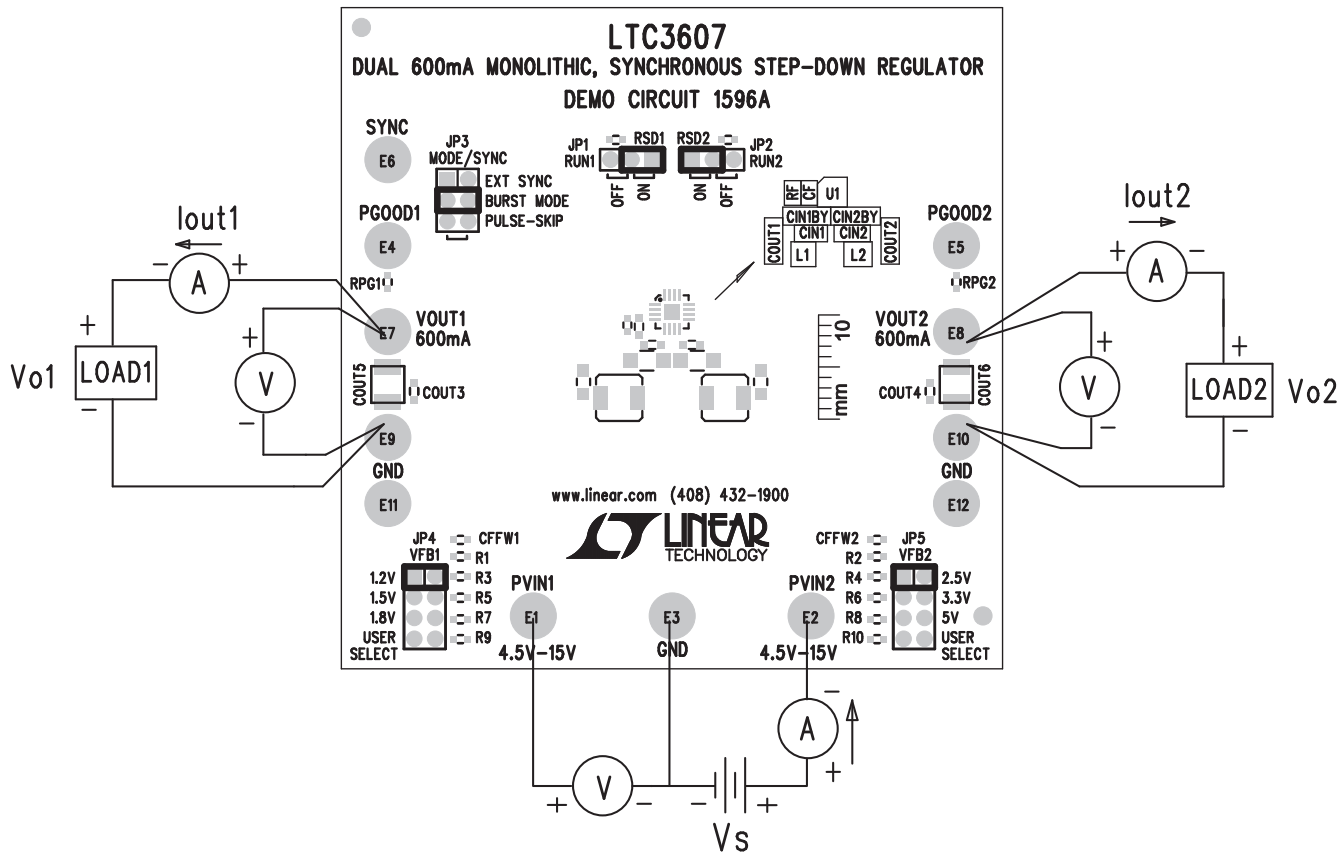

Figure 1. Proper Measurement Equipment Setup
The DC1596 is easy to set up to evaluate the performance of the LTC3607. For a proper measurement equipment configuration, set up the circuit according to the diagram in Figure 1.
1. Connect the input power supply to the PVIN1/PVIN2 and GND terminals (V_{IN1} and V_{IN2} are separate nodes but are connected). Connect the loads between the VOUT and GND terminals. Refer to Figure 1 for the proper measurement equipment setup.